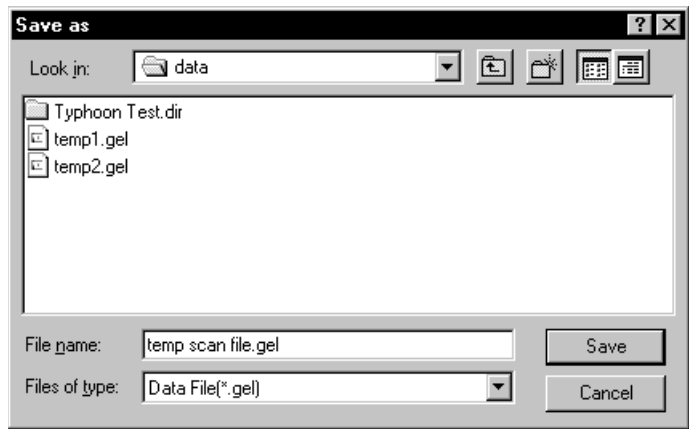

Fig 6-7. The Save as fwindow.
- 3 In the Scanner Control window, click the **Scan** button. The Save as window appears (fig 6-7).